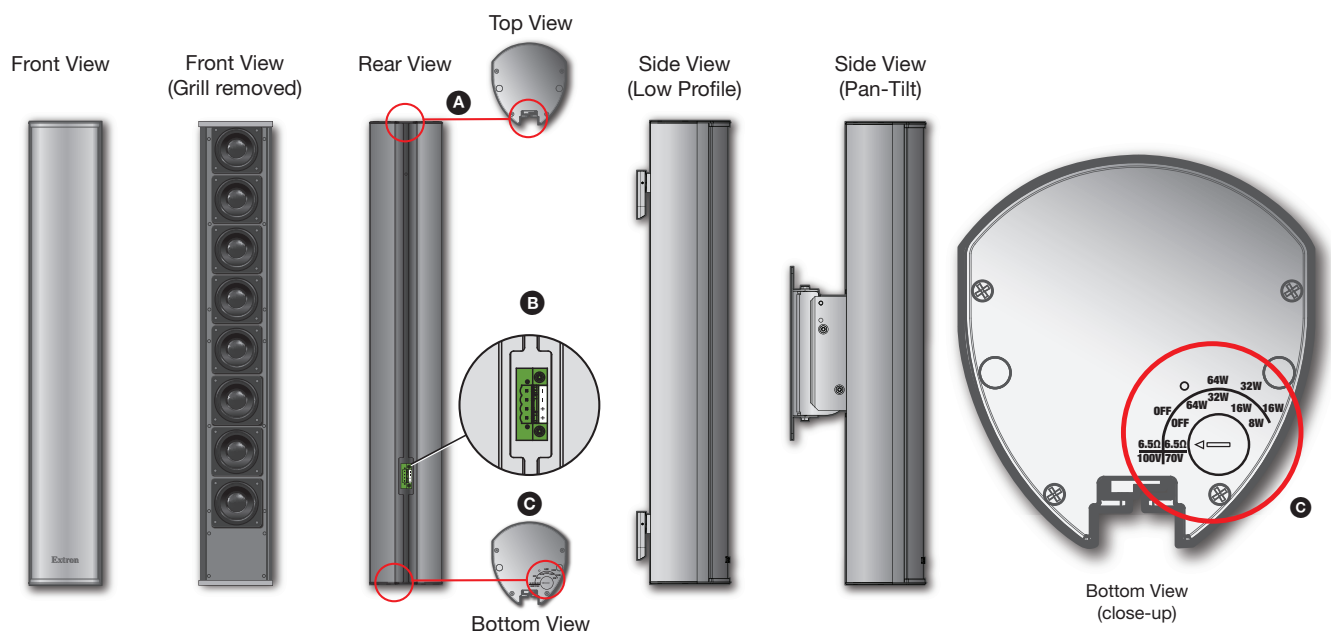

Figure 1. CA 83T Product Diagram
- A Mounting Bracket T-slot (see figure 1) —** Runs the entire length of the speaker enclosure. Carriage Bolts (for the SMK LP CA) or Anchor Plates (SMK PT CA) can slide in through either end to the desired locations. Secure and re-adjust if needed.